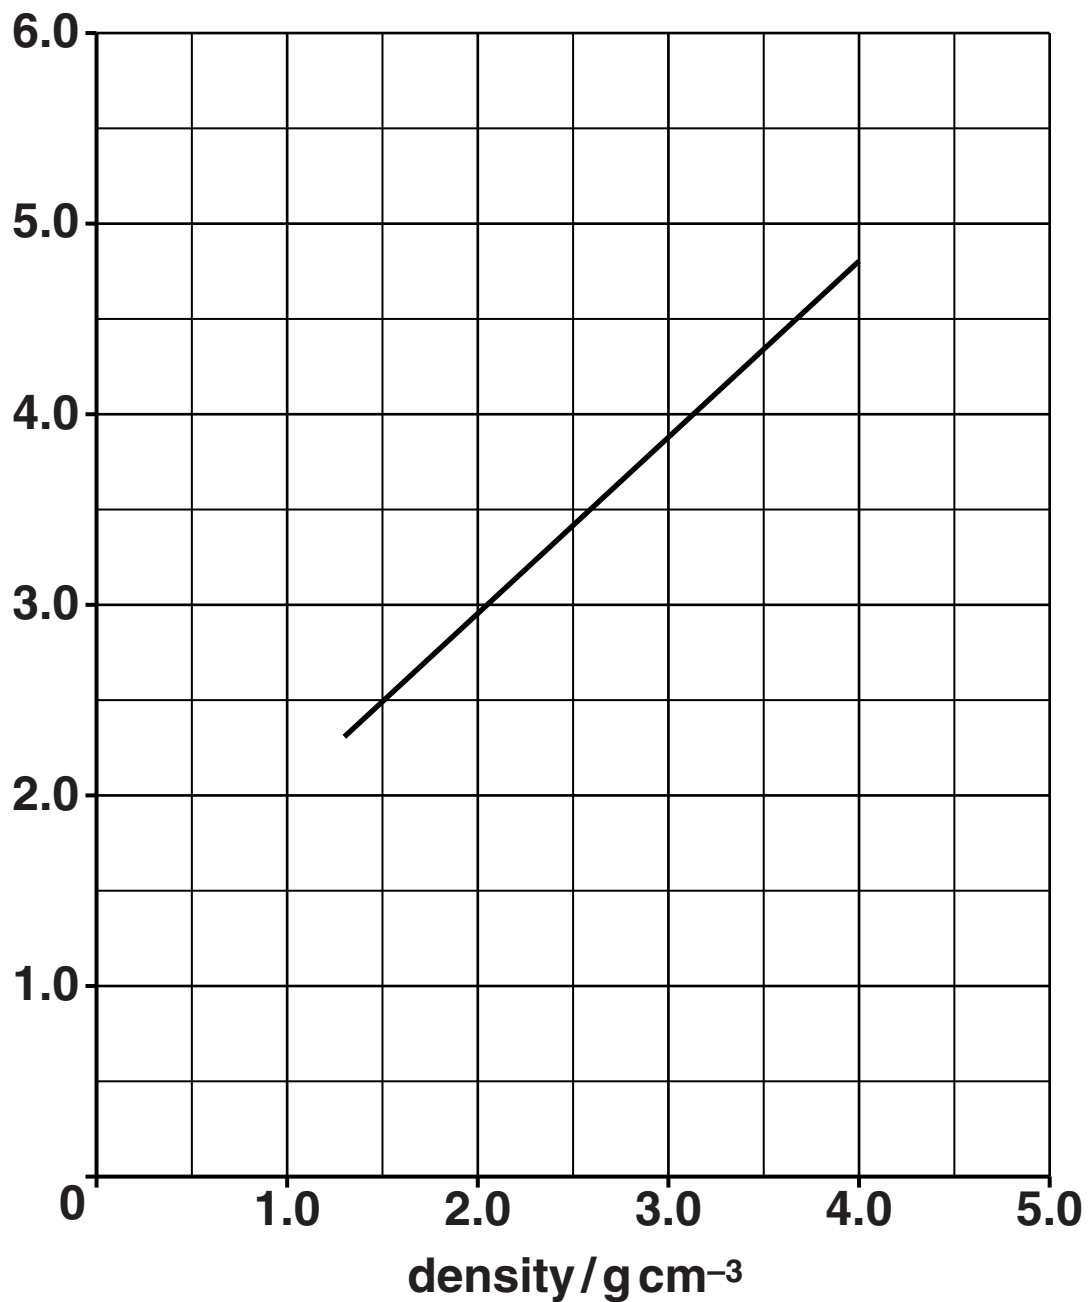

Fig. 2.2
- (d) When a detonator containing mercury fulminate explodes it produces a shockwave that then sets off a secondary explosive. A graph of the shockwave velocity against the density of the packed primary explosive is shown in Fig. 2.2.